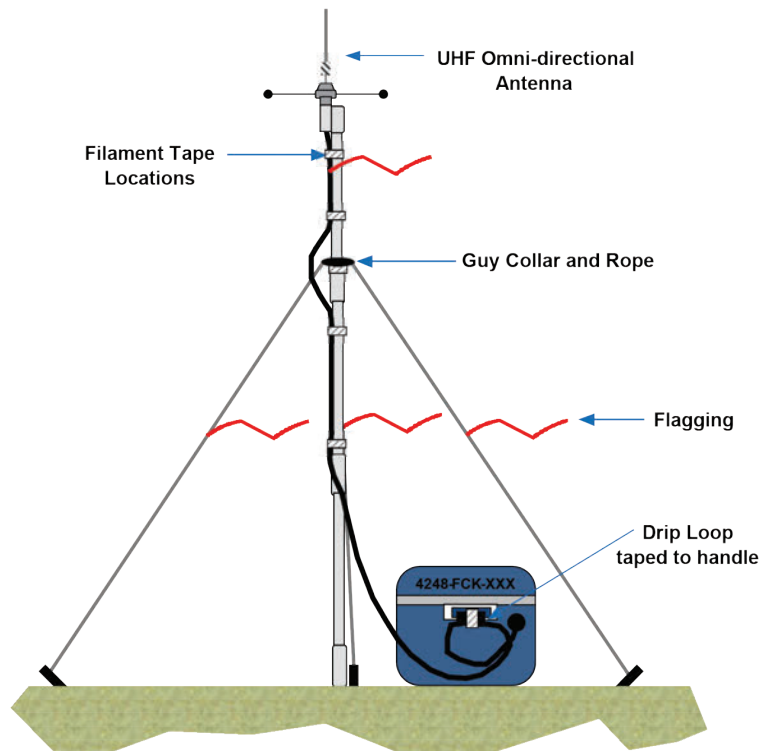

Figure 2:
3. Coaxial Cable (See Figure 2)